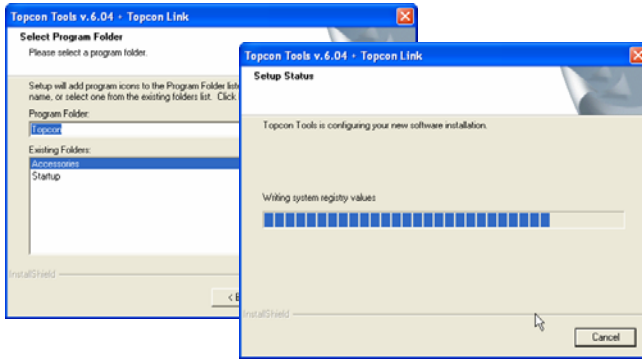

Figure 1-2. Select Program Folder and Installation Progress
6. If desired, type a new folder in which to add program icons. Then click **Next** (Figure 1-2).
Topcon Tools is installed on the computer (Figure 1-2)